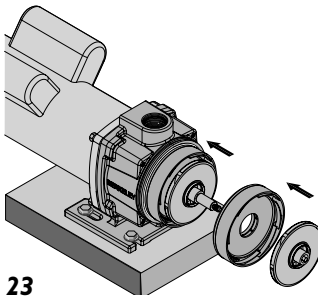

Figure 23
4. Slide a diffuser onto the shaft (open face out) until it seats on the bracket (see Figure 23). Follow the diffuser with an impeller. Engage the molded impeller key in the slot in the shaft. Don't force it! Be sure that the impeller eye faces out (forward).